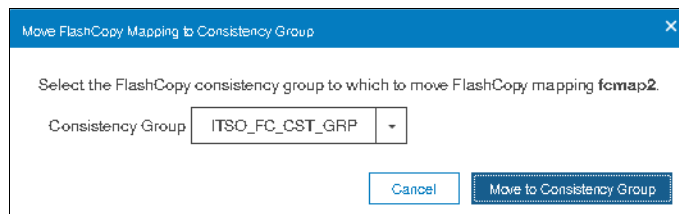

Figure 10-54 Move FlashCopy mapping to Consistency Group window
4. In the Move FlashCopy Mapping to Consistency Group window, select the Consistency Group for this FlashCopy mapping by using the drop-down list (Figure 10-54).